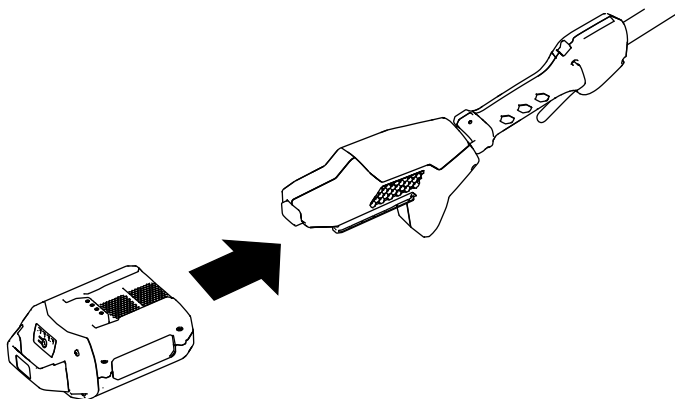

Figure 11
3. Align the cavity in the battery pack with the tongue on the handle housing (Figure 11).